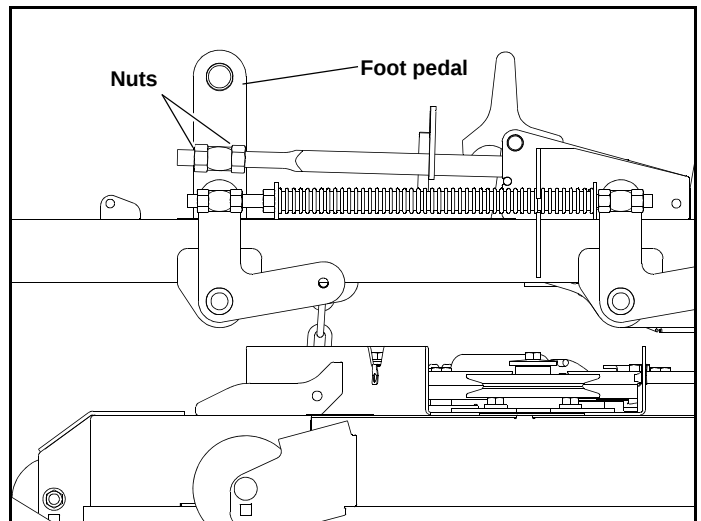
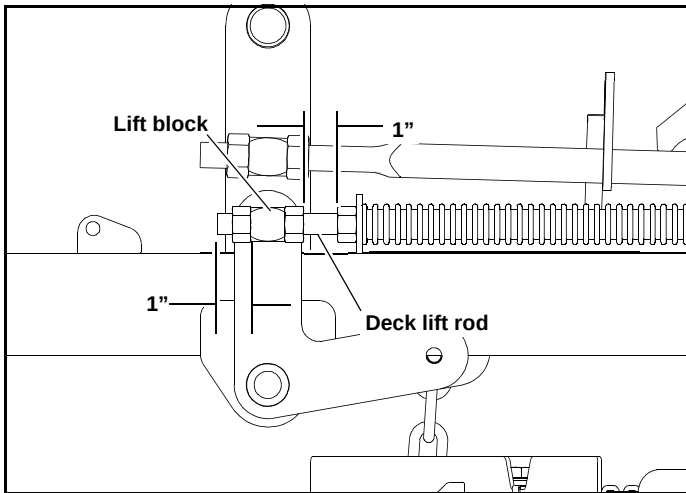
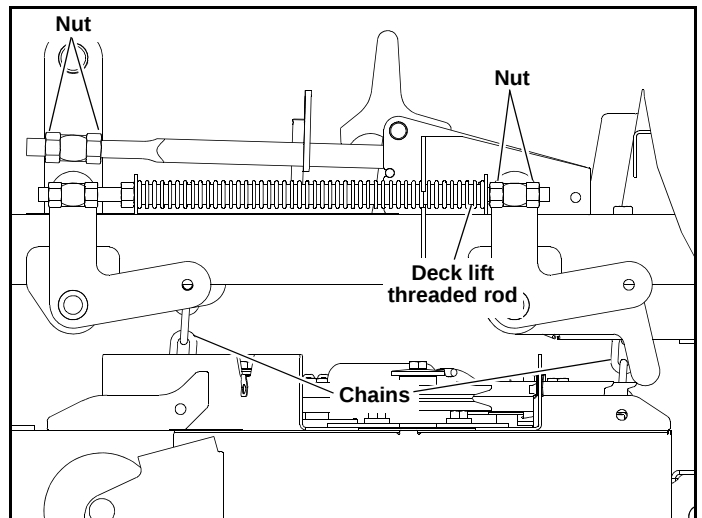

Figure 7-3
Figure 7-4
Figure 7-7
6. Loosen all nuts on the deck lift threaded rods, and the hardware on the height indicator bar (on the right front), until **all** the deck lift chains are loose, **and** the deck is sitting tightly on all four blocks. Figure 7-3, Figure 7-4 & Figure 7-7
that the foot pedal is free. Figure 7-3 & Figure 7-7
9. Set the amount of threads protruding on the deck lift rod from the lift block at approximately 1" (2.54cm) (left & right side). Figure 7-4
12. While keeping the chain tight, tighten the nuts against the deck lift block on the height indicator rod, just enough to carry most of the deck weight on that side — the block should be able to move with only a slight drag. Figure 7-4
24. Make sure that there is still slack in the chain. If not, loosen the two nuts on the block holding the threaded rod until there is slack in the deck lift chain. Figure 7-7
moving the block—it should move with a slight drag. Figure 7-7
27. Compress the deck lift assist springs so that there is 1" (2.54cm) of space between the front nut on the spring and the rear nut on the deck lift block. Typical both sides. Figure 7-4